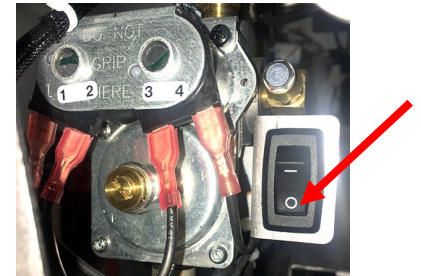

Figure 5
2. Turn the gas valve to the OFF position (see Figure 5).